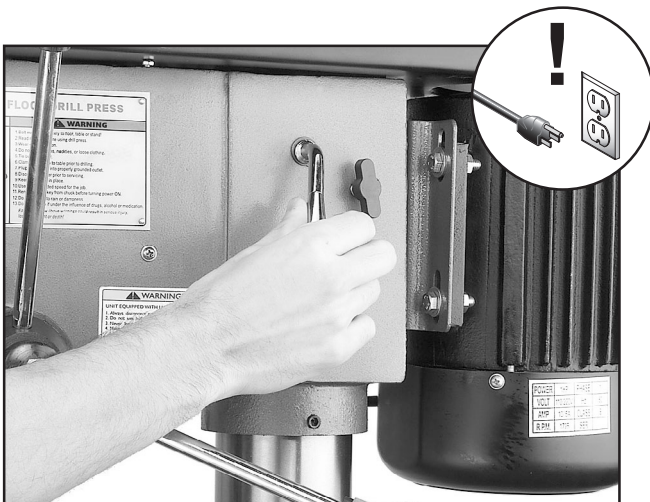

Figure 27. Using the belt tension lever.
3. Rotate the belt tension lever counterclockwise, as shown in **Figure 27**, to take tension off the V-belts.